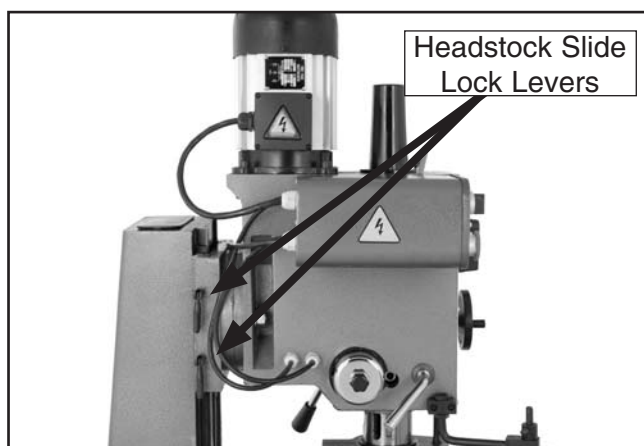

Figure 17. Headstock slide controls.
1. Unlock the headstock slide lock levers shown in **Figure 17**.